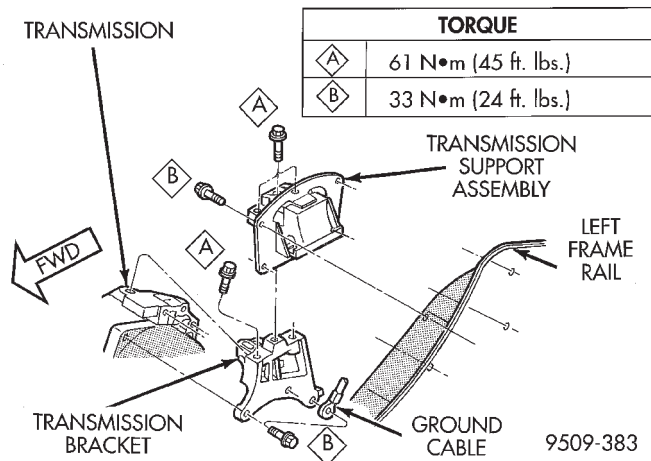

Fig. 29 Left Side Mount—Typical
- (1) Support the transmission with a transmission jack.
- (2) Remove the three vertical bolts, from the mount to the transmission.
- (3) Remove the transmission mount fasteners and remove mount.
- (4) Reverse removal procedure for installation. Refer to (Fig. 29) for bolt tightening specifications.
- (5) Engine support assemblies adjustment, Refer to Engine Support Assembly Adjustment of this section.